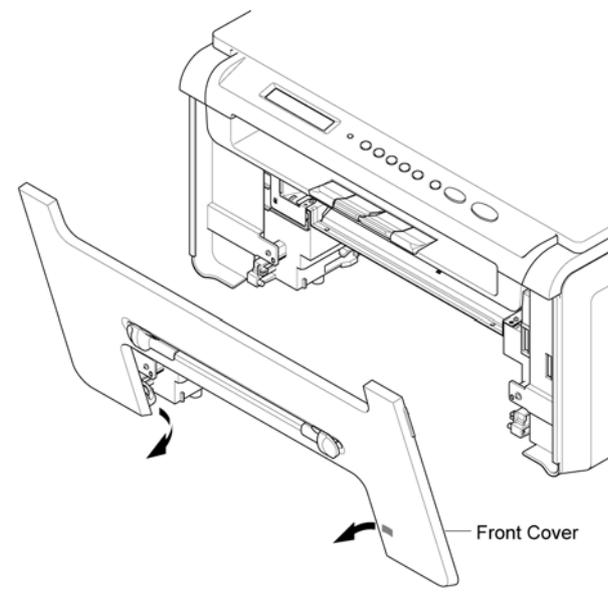

Figure 3
3. Gently flex the front cover in the direction of the arrows and remove the front cover, Figure 3.